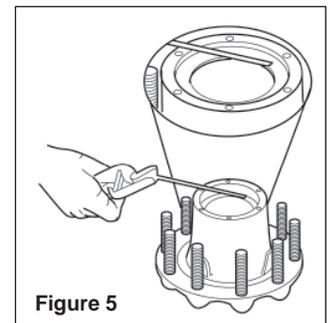

Figure 5
1. If required on an aluminum hub, remove the bearing cup by welding a large bead around the bearing surface of the steel cup, letting the assembly cool, and removing the bearing cup (see figure 5).